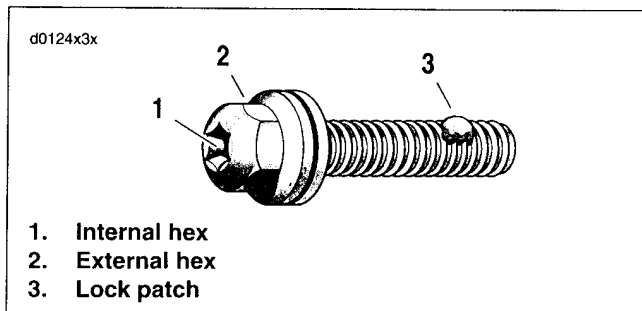

Figure 3-17. Rocker Cover Bolt (Rocker Housing Bolt Similar)
See Figure 3-17. Rocker cover and rocker housing bolts have both an internal (1) and external hex (2). This allows the bolts to be removed or installed with either a short 3/16 in. allen wrench (tight spaces), or a 7/16 in. socket or open end/box wrench (open spaces).